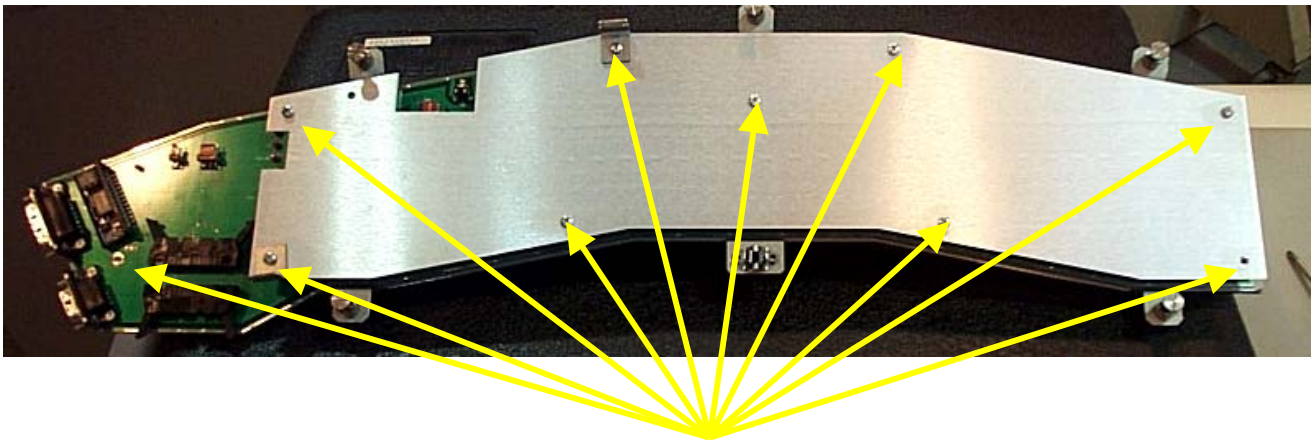

Figure 1. Remove Screws
5. Refer to Figure 1. Remove the nine (9) screws holding down the metal cover and the one (1) screw located by the connectors.